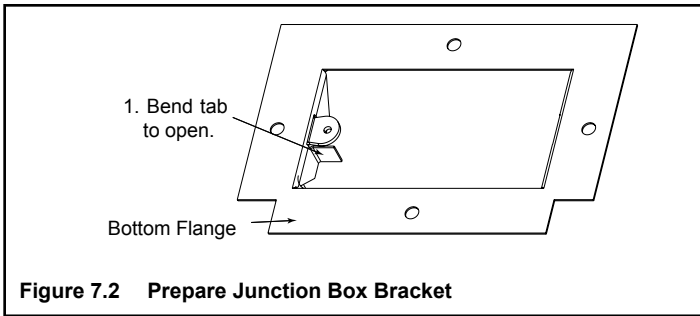

Figure 7.2 Prepare Junction Box Bracket
- Attach the junction box bracket to the junction box as shown in Figures 7.2 - 7.4.